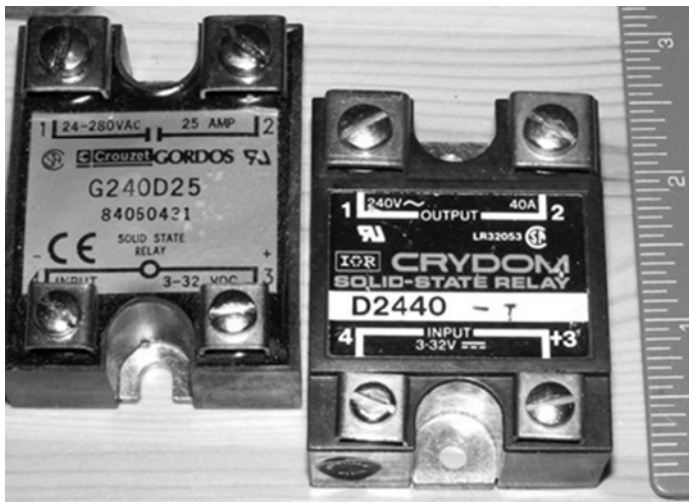
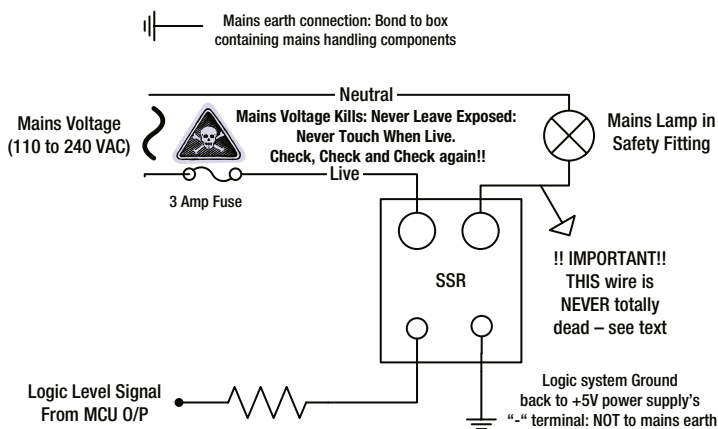

Figure 4-26. Two examples of a solid state relay
Figure 4-27. Basic use of an SSR
Figure 4-26 contains a picture showing two examples of the larger kinds of SSR. This style of package is, due to its overall shape, known as the hockey-puck style—but there are other much smaller packagings for lower amounts of power switching. The left-hand device shown here is rated to switch 25 amps of mains current and the right-hand device is rated for 40 amps.³ So, even if you wanted to switch power on and off to a 2 or 3 kilowatt water heater, you could find an SSR that was more than capable of handling it (with heatsinking and the all-important safety considerations taken into account—see Figure 4-27). These hockey-puck SSRs are normally bolted to a metal rail or chassis which helps with heatsinking. The metal case is isolated from all the terminals and so can be earthed via the mounting rail or the containing metal box. SSRs in this format sometimes come with a clip-over plastic hoods that help keep their potentially deadly mains terminals inaccessible. However, these, for some reason, are sometimes sold separately, so make sure if you’re buying SSRs you get the hoods one way or another.
Figure 4-27 is a diagram of how an SSR is used: in this case we are switching mains power on and off to a mains lamp, under control of an MCU. On the control side, the MCU sends a logic level signal into the + terminal and the other terminal goes to ground. You may or may not need the resistor: SSRs designed to be used with logic level control systems will not require an external resistor, but other types of SSR might require a 270R resistor to limit the current pulled from the MCU. Consult the data sheet for your particular SSR.
■ **Caution** As Figure 4-27 makes very clear, when mains electrics are involved you cannot be too careful. Make sure you use a fuse in the circuit in case of mishaps or malfunctions, make sure that all of your mains connections are covered up and well insulated so that you, other people, or family pets cannot accidentally touch them. Preferably enclose all the mains handling side of your project into an earthed metal box. **Always** design in a mechanical, insulated, isolation point at which you can totally disconnect your project from the mains: This may be a double pole mains isolation switch, a removable cartridge fuse, or a plug you can pull out from a mains outlet socket.